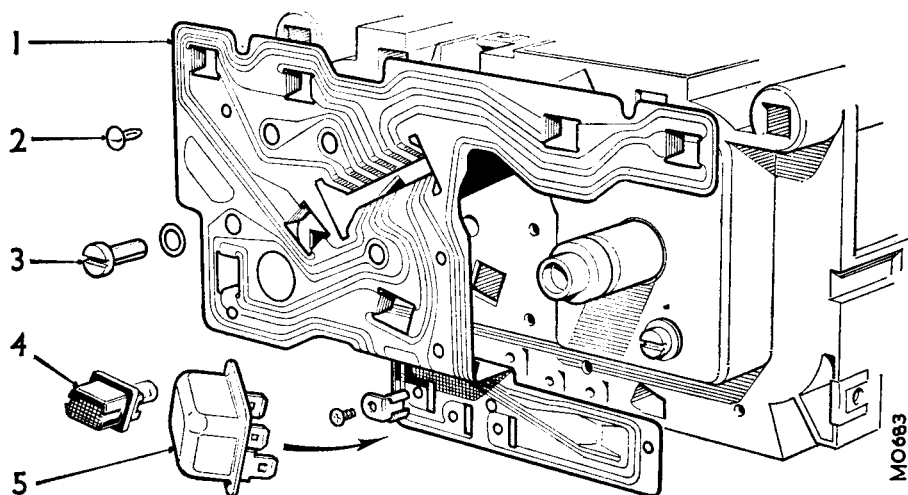

Fig. Nb.3
2. Withdraw all the panel and warning light bulb holders (4) and pull off the voltage stabilizer (5) (see Fig. Nb.3).
6. Ease out the pins (2) securing the printed circuit and remove the circuit (1).